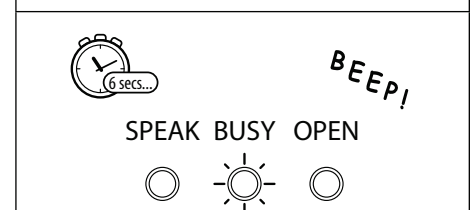

Fig. 50
7. After a short delay of approximately 6 seconds the busy LED will stop flashing and the GSM will emit a single beep to indicate that the module has been fully reset, as shown in **Fig.50**. All the settings will be reset back to factory default and any stored user information etc. will be deleted from the module;
8. After the reset remove the short between the violet (d) and yellow (6) wires.